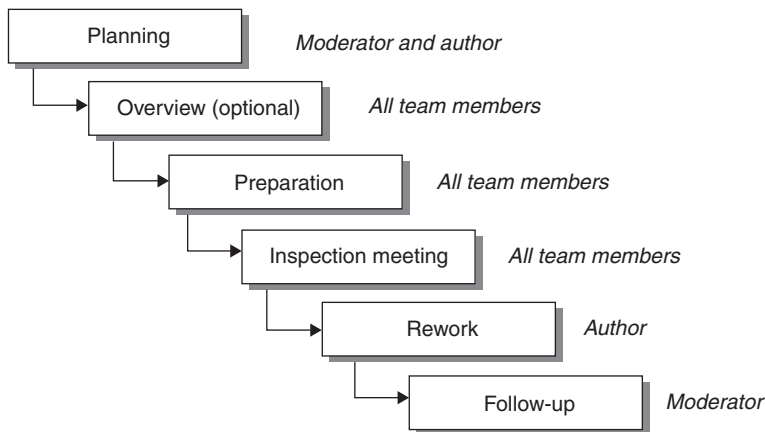

Figure 3.2: The code inspection process
*Follow-up:* The Moderator checks the reworked code. Once the Moderator is satisfied, the inspection is formally complete and the code may be tested (Figure 3.2).